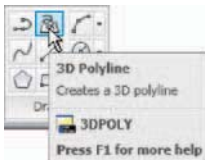

Fig. 12.17 The **3D Polyline** tool from the **Home/Draw** panel
1. Place the screen in the **ViewCube/Top** view and construct a rectangle of size **80 × 50**, filleted to a radius of **15**. Place the drawing in the **View Cube/Front** view and using the **3D Polyline** tool from the **Home/Draw** panel (Fig. 12.17) construct a 3D polyline of three plines each of length **45** and at **45°** to each other at the centre of the outline as shown in Fig. 12.18.